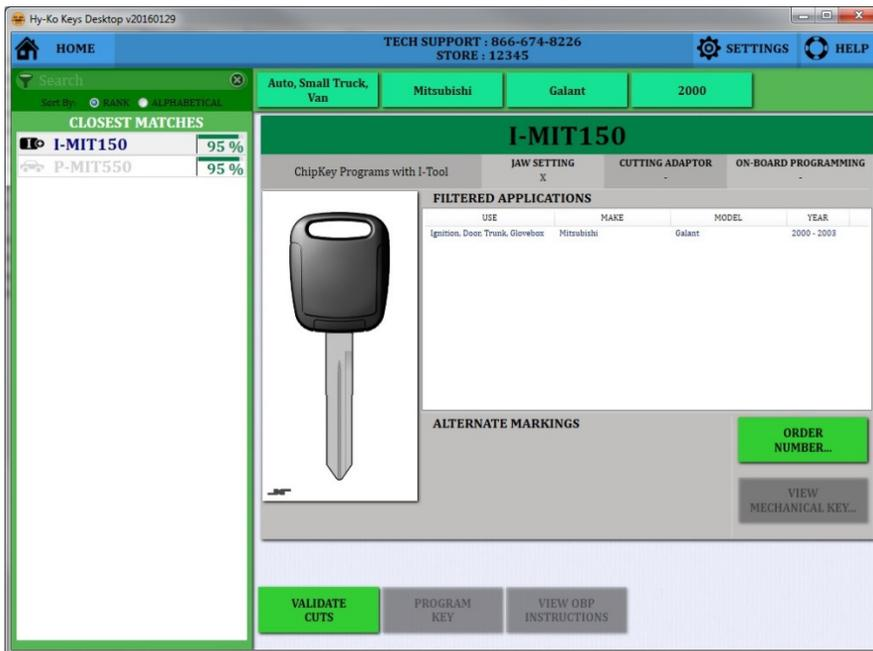

fig. 76
- Once you have completed cutting the key you can return to the Vision Box to validate the cuts on the new blank in relation to the customer's key (see fig. 76).